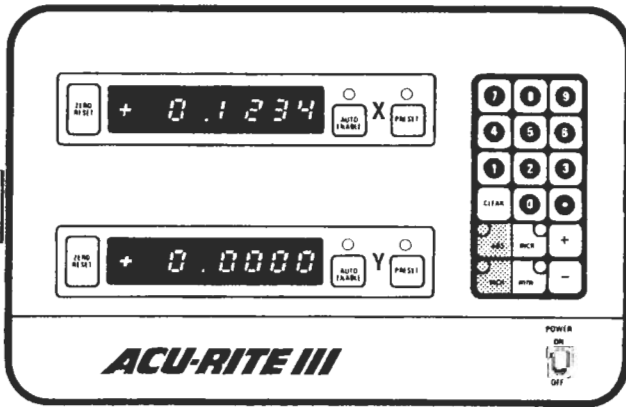

Figure 3-18 Console Status: Absolute Mode
- b. To switch to the absolute mode during an incremental machining operation, push the ABS key to light it (Figure 3-18). The display will instantly change to the measurement in the absolute mode (without losing the incremental measurement).